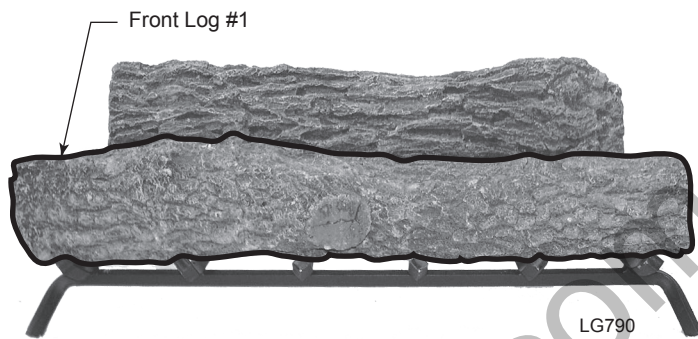

Figure 21 - Place Front Log #2 on Front Grate
2. Place Front Log #1 on front of grate. *Figure 21*